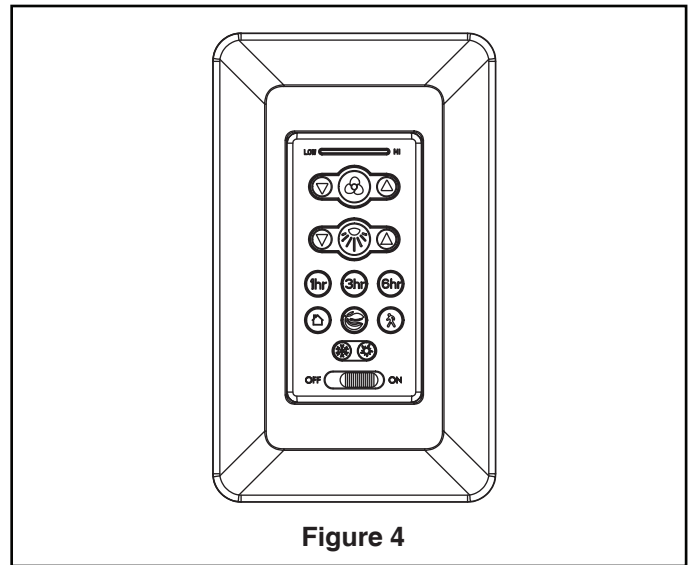

Figure 4
4. Remote functions: (Figure 4)